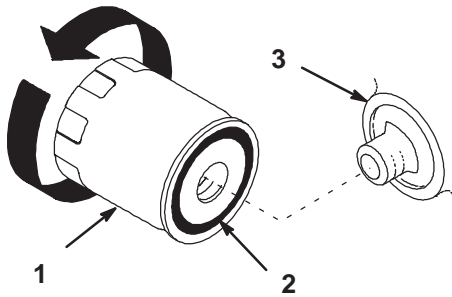

Figure 29
2. Remove the old filter and wipe the filter adapter (Fig. 29) gasket surface.
4. Apply a thin coat of new oil to the rubber gasket on the replacement filter (Fig. 29).
5. Install the replacement oil filter to the filter adapter. Turn the oil filter clockwise until the rubber gasket contacts the filter adapter, then tighten the filter an additional 1/2 turn (Fig. 29).